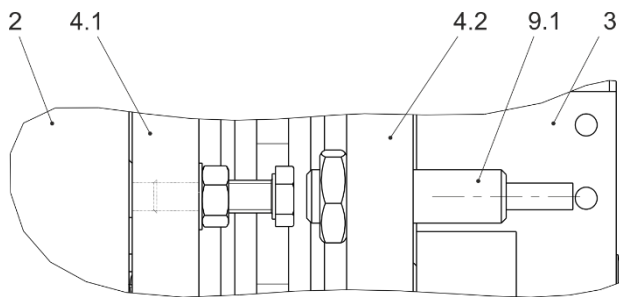

Fig. 4
Only one proximity switch for release monitoring (9) is required per ROBA-stop®-stage brake, which is mounted onto the brake 2 (Fig. 4).
The ROBA-stop®-stage brakes are supplied with a manufacturer-side installed and adjusted release monitoring unit (see Fig. 4). The proximity switch (9.1) emits a signal for every brake condition change: "brake opened or brake closed"